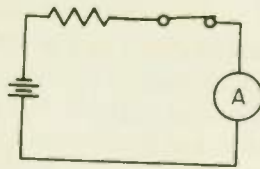

Fig. 17
1. In the circuit shown in Fig. 17 the ammeter reads 8 amp. A new battery, having 3 times the voltage of the original one is connected into the circuit. The new value of current, as indicated by the ammeter, will be (a) 24 amperes. This shows that when you triple the voltage, you (b) TRIPLE the current, provided the circuit (c) RESISTANCE remains the same.